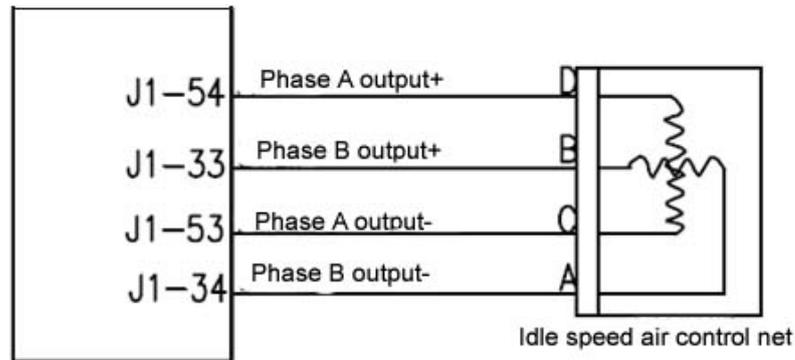

Fig. 1-16
(1) Function: A by-pass air intake passage will be provided by the idle speed actuator with stepper motor. When the throttle is closed, air will enter into the engine through this by-pass passage. With a stepper motor, the ECU can adjust the size of the passage, and then confirm the air volume into the engine. At the same time, the ECU can also adjust the fuel injection volume on the basis of the air volume. With the stepper motor, the ECU can change the working condition for the engine according to actual situations.
(2) Structure and principle: As a mini-size motor, the stepper motor consists of several steel stators in a circle and one rotator. Every stator is winded with a coil. The rotator is a permanent magnet, and at the center of the magnet, there is a nut. All the coils of the stators are connected with the power supply constantly. As long as the current direction of one of the coils changes, the rotator will turn for an angle. When the current direction of the coil of each stator changes in a certain proper sequence, a rotary magnetic field will be formed, and the rotator of the permanent magnet will rotate in a certain direction.
(3) Connection of wiring diagram (Fig. 1-16)